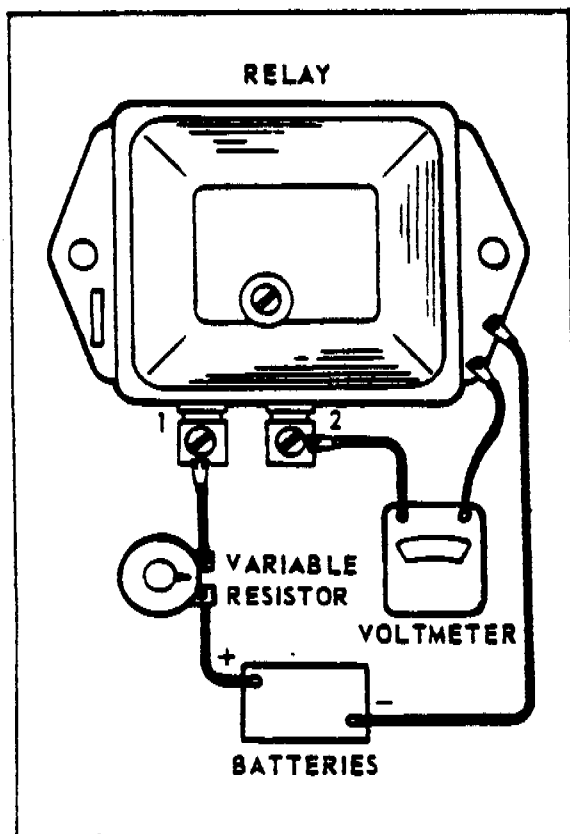

FIGURE 9-27. RELAY TESTS
- Connect this resistor with a voltmeter and two 12 volt batteries in series to the relay as shown in Figure 9-27. Connect the negative battery post to the relay base, and the positive battery post to the variable resistor.